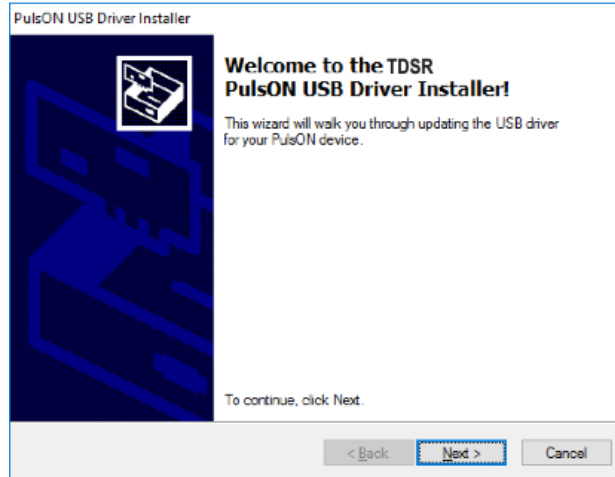

Fig. 4: USB driver installation screen
8. During the MRM installation process, the USB drivers will be loaded. This process starts when the screen shown in **Figure 4** appears.